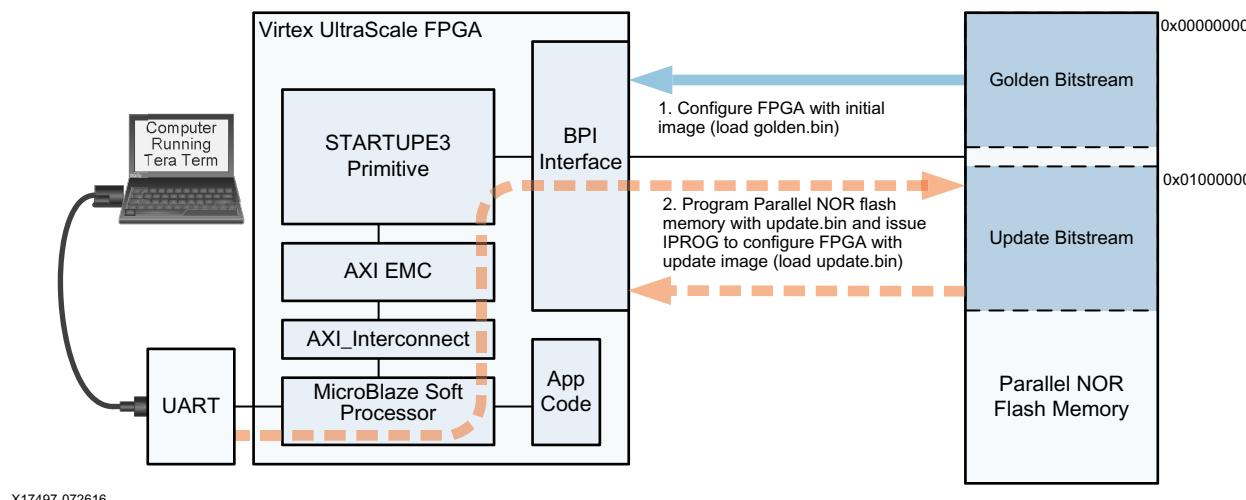

Figure 1: Reference Design Post-Configuration Access Flow
The reference design in this application note uses a MicroBlaze® processor core to interface to the AXI external memory controller (AXI EMC) core and the STARTUPE3 primitive to implement post-configuration read and write access through a dedicated BPI configuration interface to the on-board parallel NOR flash memory. Figure 1 shows operation of the post-configuration reference design.
When the BPI configuration mode is used to configure the FPGA, the initial bitstream image loads from the parallel NOR flash memory. After the FPGA is initially configured, the BPI configuration interface typically remains unused. However, the unused space in the parallel NOR flash memory can be used to store additional configuration images or application data, eliminating the cost of adding extra memory and reducing the required board space. Figure 1 shows how the reference design executes this flow:
The reference design stores two images in the parallel NOR flash memory (shown in Figure 1):
- Configure FPGA with golden.bin (Corresponds to step 1 in Figure 1.)
- Program Parallel NOR Flash Memory with `update.bin` (Corresponds to step 2 in Figure 1)
- Configure FPGA with `update.bin` (Corresponds to step 2 in Figure 1.)